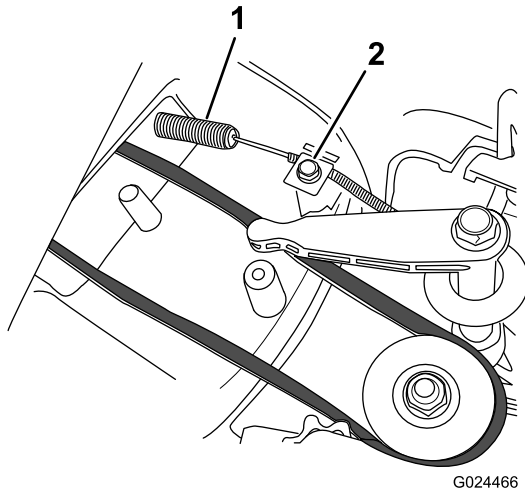

Figure 27
2. Install the new blade-brake cable, but do not tighten the cable clamp on the top of the mower housing (Figure 27).